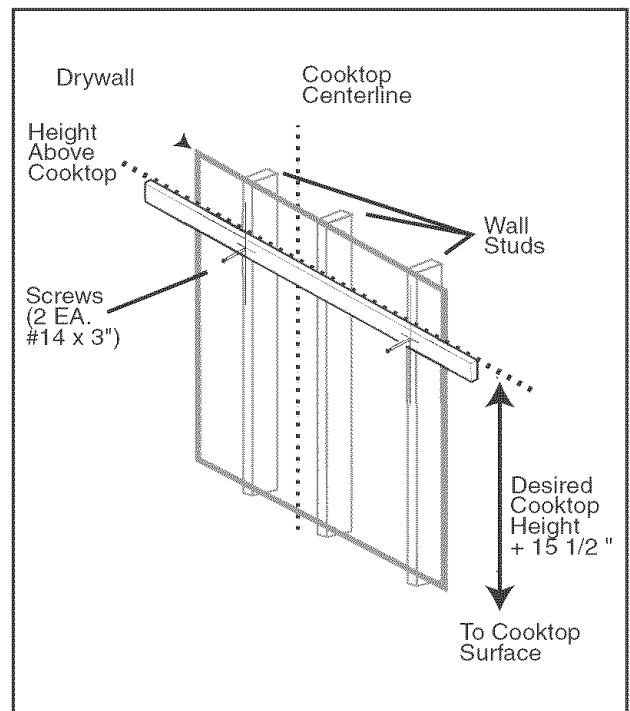

Figure 3
4. Locate one stud on either side of the cooktop centerline to use for mounting the wooden bracket as shown in Figure 3.
7. Use 2 or 3 (#14 x 3") screws to attach the bracket to the wall as shown in Figure 3. For support of longer hoods, use three studs. Countersink the heads to prevent interference with the hood.